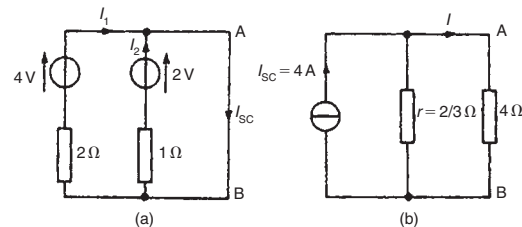

Figure 13.57
- (i) The 4Ω branch is short-circuited as shown in Fig. 13.57(a)
- (ii) From Fig. 13.57(a),
- (iv) From the Norton equivalent network shown in Fig. 13.57(b) the current in the 4Ω resistance is given by: